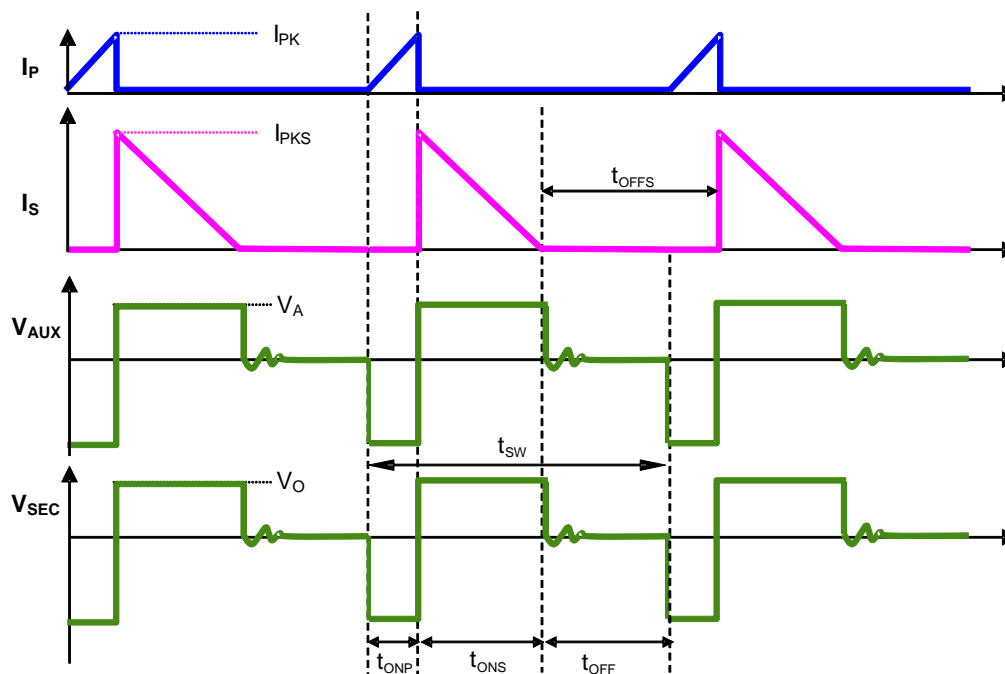

Figure 2. The Operation Waveform of Flyback PSR System
Figure 2 shows the typical waveforms which demonstrate the basic operating principle of AP3783R application. And the parameters are defined as following.
As illustrated in Figure 2, when the current $i_p(t)$ rises up to I_{PK} , the switch Q1 turns off. The constant peak current is given by:
The AP3783R can work in constant-current (CC) mode. Figure 2 shows the secondary current waveforms.